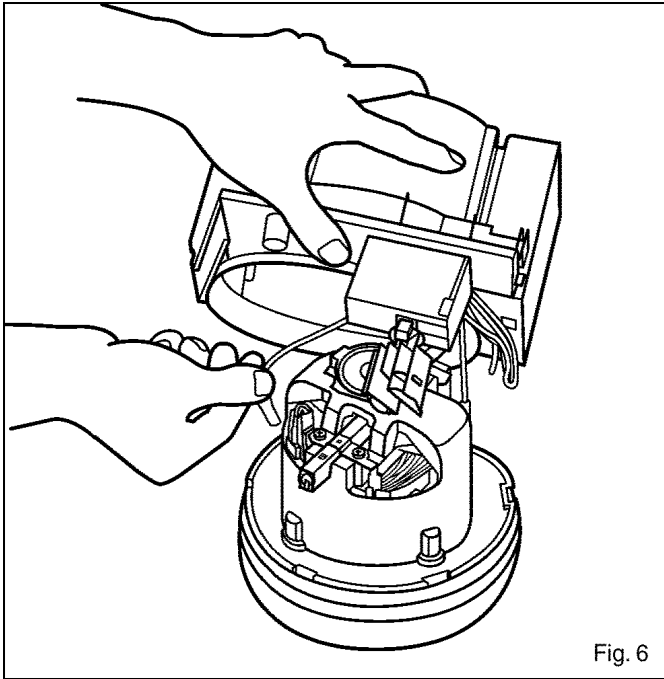

Fig. 6
6. Disconnect the two lead wires (provided with quick-connect terminals) from the motor tabs. (Fig.6)